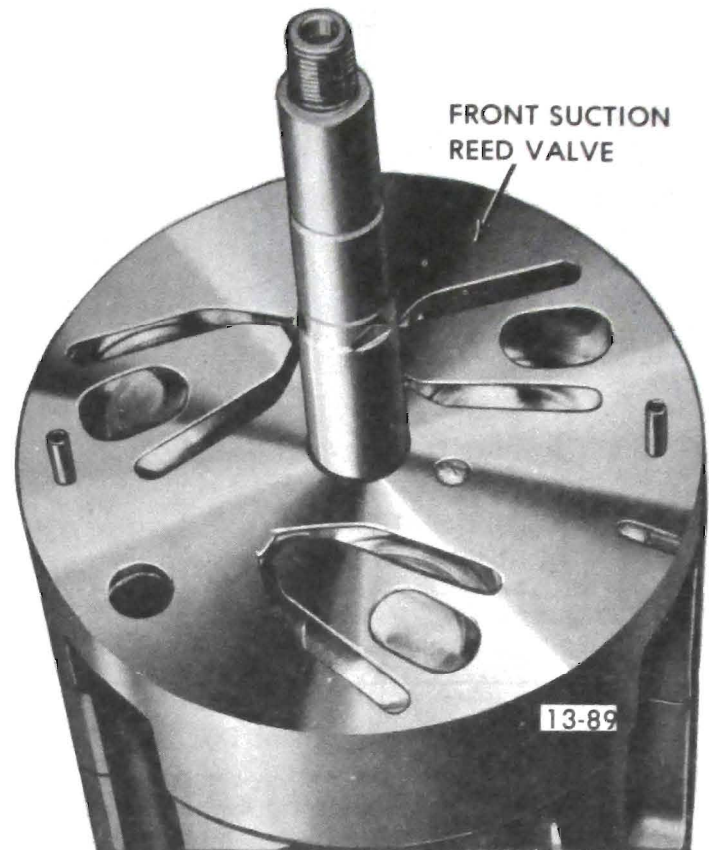

Figure 13-71 Front Suction Valve Reed Disc Installed
1. Assemble suction reed valve disc to front of cylinder assembly and align with dowel pins, suction port and discharge port (see Figure 13-71).